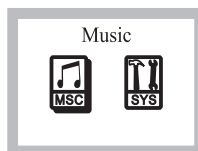

Fig. 17
- (K) Enter the Main Mode: USB flash drive not inserted or press & hold STOP button during playback.
- (1) Music Mode: Insert USB flash drive and press PLAY/PAUSE  to play music, Fig. 17.